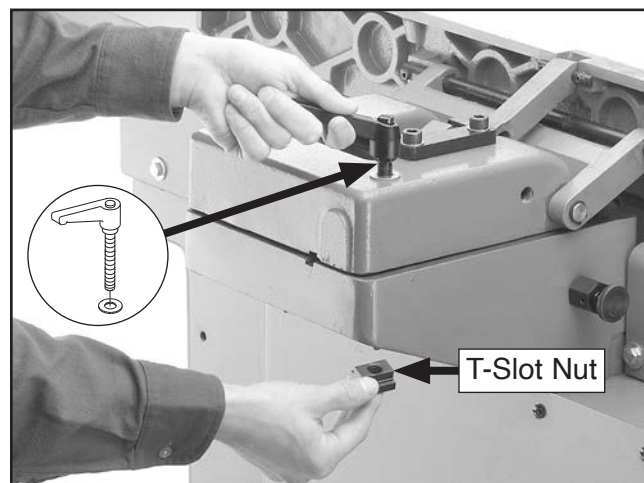

Figure 3. Installing fence lock.
3. Place fence assembly on top of fence support, as shown in Figure 3.
4. Slide flat washer onto fence lock shaft, insert shaft into hole on top of fence assembly and through slot of support (see Figure 3).
5. Thread T-slot nut onto bottom of lock shaft so nut fits up into slot of fence support (see Figure 3).